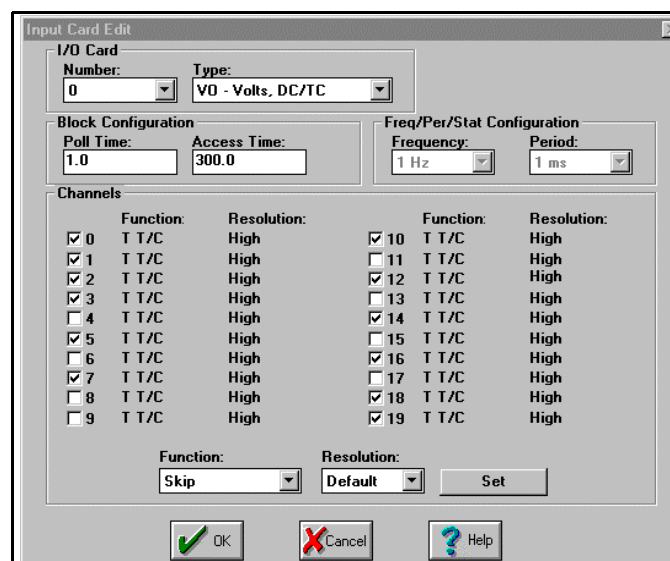

Figure 9: Input Card Edit Dialog Box
- To program the individual channels on the card, double click in the I/O Card Number column to select the first input card. The Input Card Edit dialog box appears, as shown in Figure 9 below.